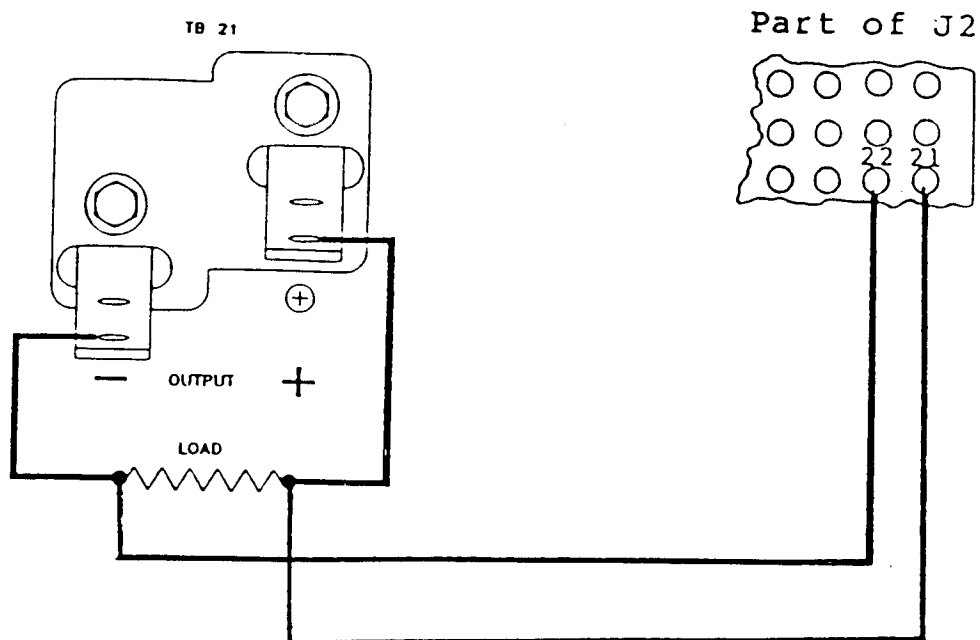

Figure 3.4 Remote Sensing Configuration
- C. Install the remote sense leads to plus and minus SENSE terminals in J2 using the J2 mating connector provided. Note which lead is connected to the plus terminal (remote sensing configuration is shown in Figure 3.4).